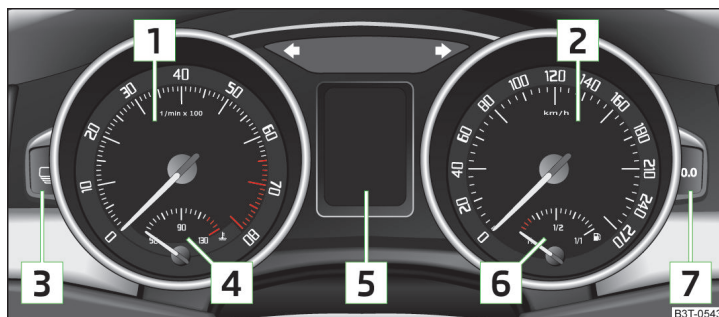

Fig. 20 Instrument cluster
The red scale of the revolution counter **1** » Fig. 20 on page 28 indicates the range in which the system begins to limit the engine speed. The system automatically restricts the engine speed to a steady limit.
Press and hold the [7] » Fig. 20 on page 28 button.
Use buttons [3] and [7] to set the clock » Fig. 20 on page 28.
- Press key **[3]** » Fig. 20 on page 28 repeatedly, until the odometer display flashes » page 30.